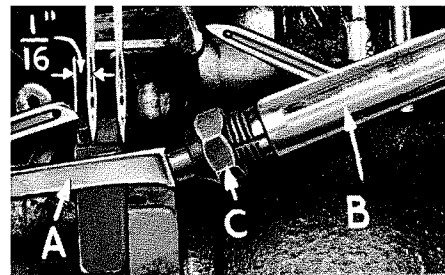

Fig. 6
At this point, insert lower looper (A, Fig. 6) into bar (B). With the lower looper at the left end of its stroke, set point  $1/16$  inch from center of left needle (Fig. 6), using looper gauge No. 21225-1/16.